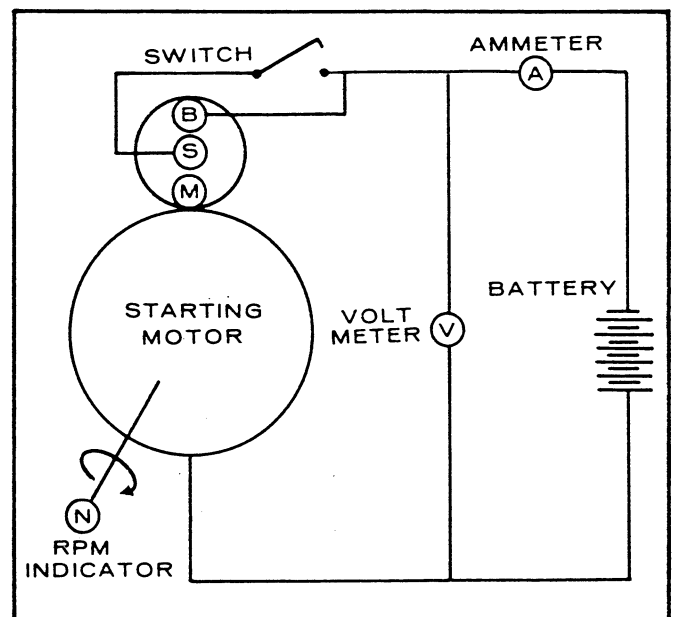

FIGURE 46. STARTING MOTOR WIRING
1. For no load test, the starting motor is wired as shown in Figure 46 and revolved. The value of the meter reading at this condition should be as follows: